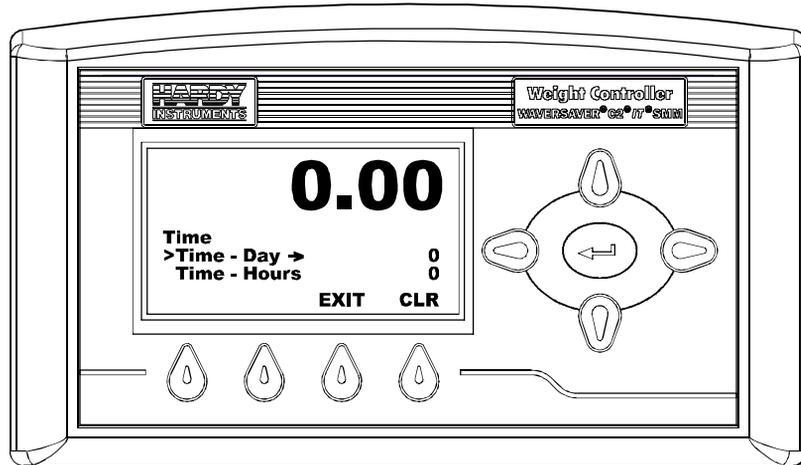

FIG. 102 TIME MENU/SELECTING TIME - DAY
Step 11. Press the Down arrow button until the cursor is in front of Time - Day. (See Fig. 102) The present day is displayed.